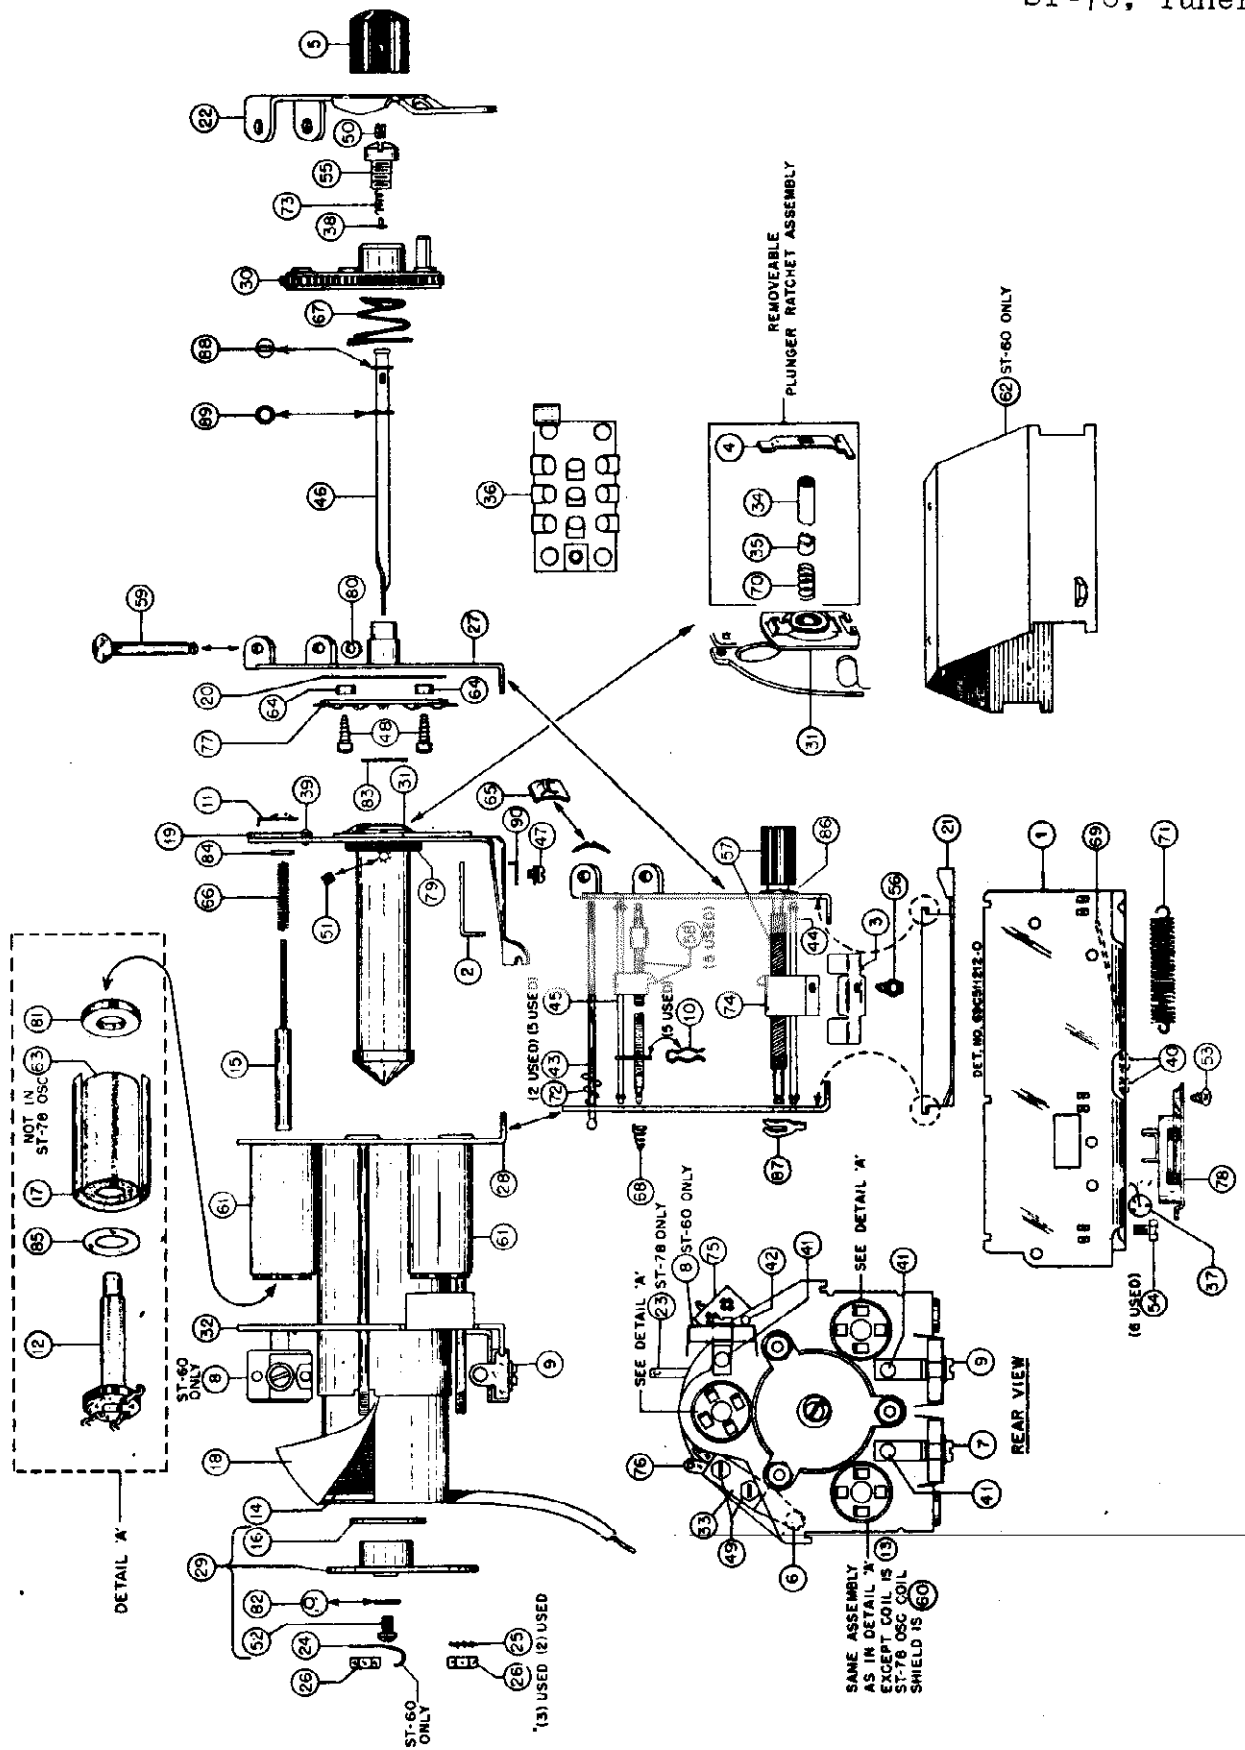

FIGURE 8. PARTS LOCATION
2. Move the carriage plate back as far as it can go. The tuning cores can now be screwed "out" or "in" by grasping the portion that sticks out the back of the coil. When installing a new core, make sure that the insulating washer and adjustment clip are replaced properly. The insulating washer goes on the core side; the core adjustment clip has an ear on it and this ear must fit into a hole in the bakelite insulator on the carriage plate. Refer to Figure 8.
(Refer to Figure 8 for parts identification).